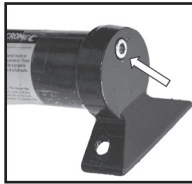
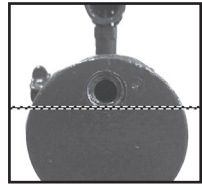

Fig.9
Fig.10
- Place Pump Assembly (1) horizontally on a flat and leveled surface (Fig 9).
- Remove filler plug (Fig 9) and add high quality hydraulic oil such as Kincromes' K12400 (HYDRAULIC JACK OIL 500ML) until the oil reaches the bottom of the filler plug (Fig 10).
- Reinstall the filler plug (Fig 9)